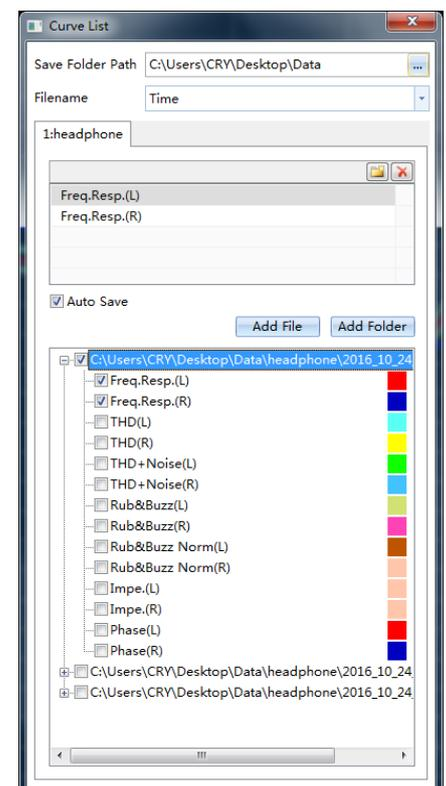
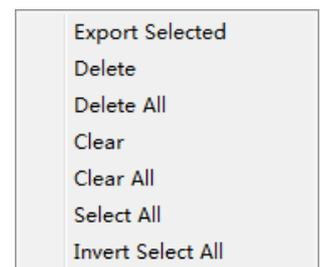

Figure 4.45 Curve List Window
Figure 4.47 Right-click Menu of Tree List
As shown in Figure 4.45, Curve List can save Excel data automatically in each test (the same as the format of recall file). To save it, you must open the Curve List and tick “Auto Save”, otherwise it will not be saved automatically.
- (3) Select curve name for batch operation, such as frequency response (L) and frequency response (R) in Figure 4.45. In the file name of subsequent tree list, tick to select frequency response (L) and frequency response (R) in the current file. Users can have multiple choices.
- (4) Add File or Folder: add the last saved recall file to the tree list. When selecting to add a folder, the entire folder will be traversed.
- (5) Auto Save: after ticking "Auto Save", data will be saved automatically after each test. The "Auto Save" option in each step is independent of each other.
- (6) Tree List: the tree list displays the saved data
- Right click the tree list. The menu in Figure 4.47 will pop up.